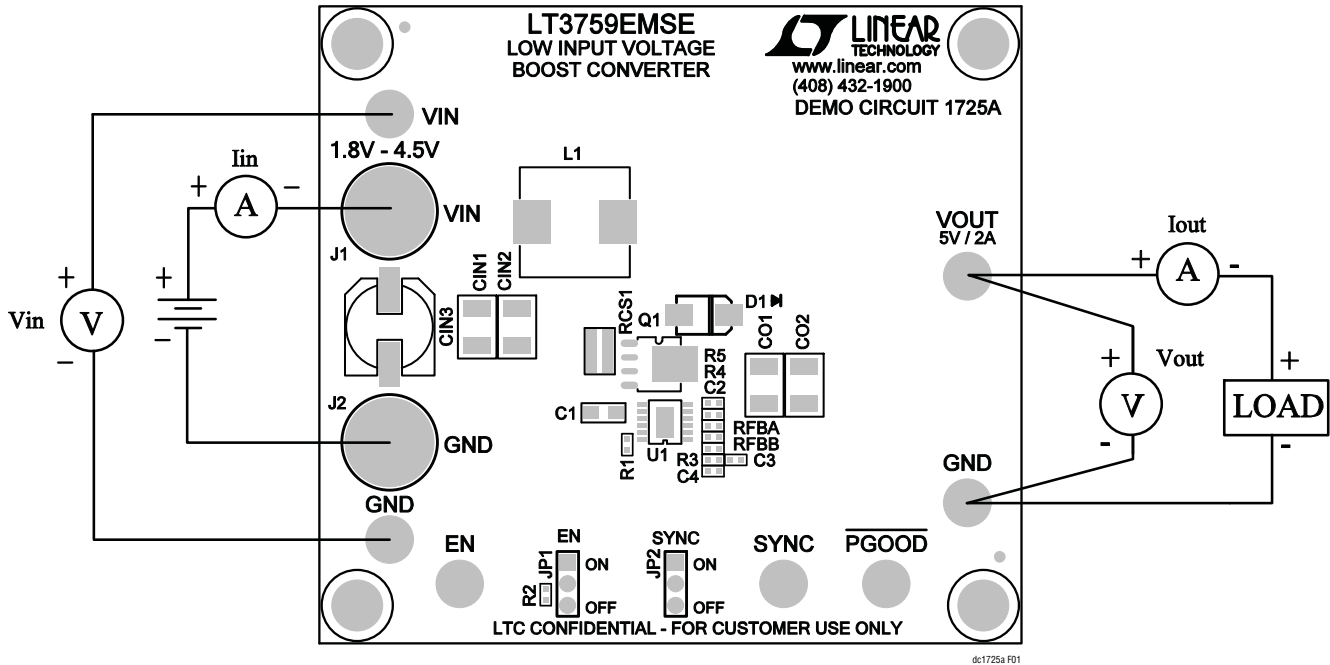

Figure 1. Proper Measurement Equipment Setup
Demo circuit 1725A is easy to set up to evaluate the performance of LT3759. Refer to Figure 1 for proper measurement equipment setup and follow the procedure below.
1. With power off, connect the input power supply, load and meters as shown in Figure 1. Preset the load to 0A, and V_{IN} supply to be 0V. Place jumpers in the following positions for a typical 5V application: